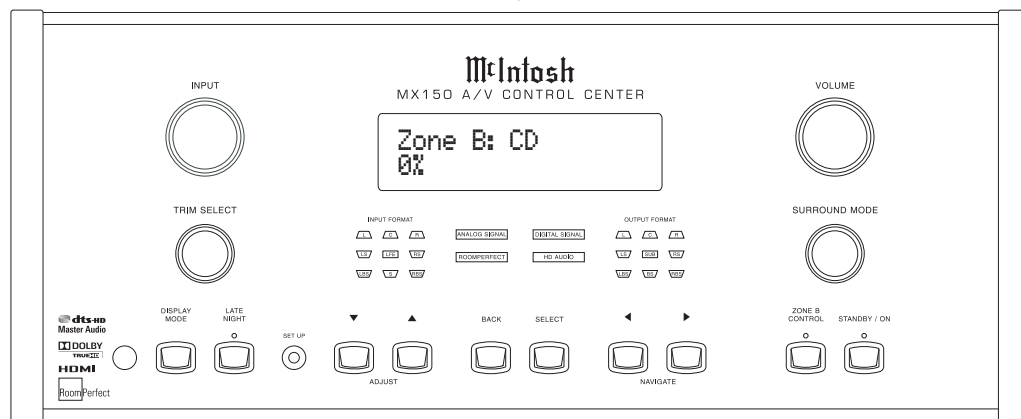

Figure 82
1. When the MX150 is Off, press the ZONE B CONTROL Push-button and the LED above the Push-button will illuminate. Then press the STANDBY/ON Push-button. After the start up initialization the Front Panel Information Display will indicate the Zone B Source and volume setting. Refer to figures 82 and 83.